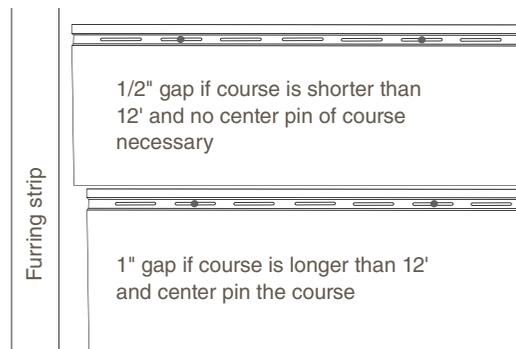

Fig. 5
- Fasten the panels by placing a fastener in the center of the slot approximately every 16" leaving about 1/32" between the head of the fastener and the nailing hem of the panel. Celect Panels expand and contract through temperature changes. (Fig. 5).